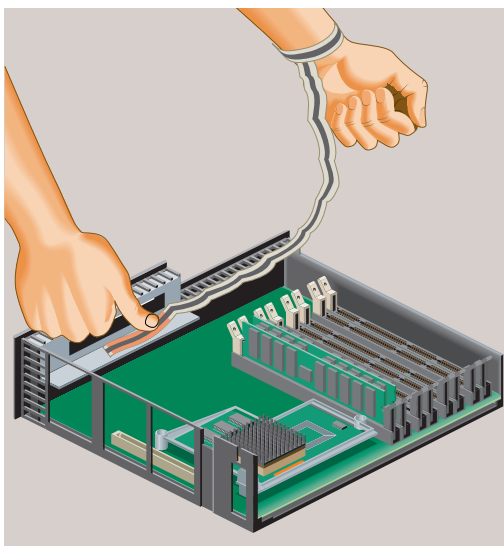

Figure 2-34 Attaching the Wrist Strap
1. Before touching any of the components, attach the wrist strap to your wrist and to the metal part of the chassis (Figure 2-34).